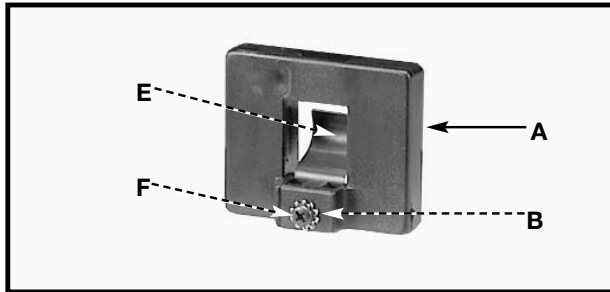
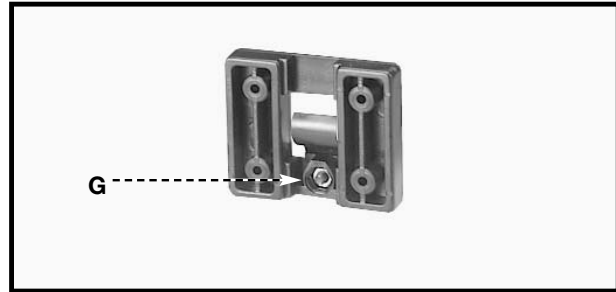

Fig. 5
Fig. 6
1. Attach the spring clip (E) Fig. 5 to the miter gauge holder (A) using an M4x.7x10mm pan head screw (F), 3/16" external tooth lockwasher, (B) and M4x.7 hex nut.
**NOTE:** The hex nut (G) Fig. 6 will fit into the recess at the back of the miter gauge holder (A) Fig. 5 to keep the spring clip (E) secured to the miter gauge holder.